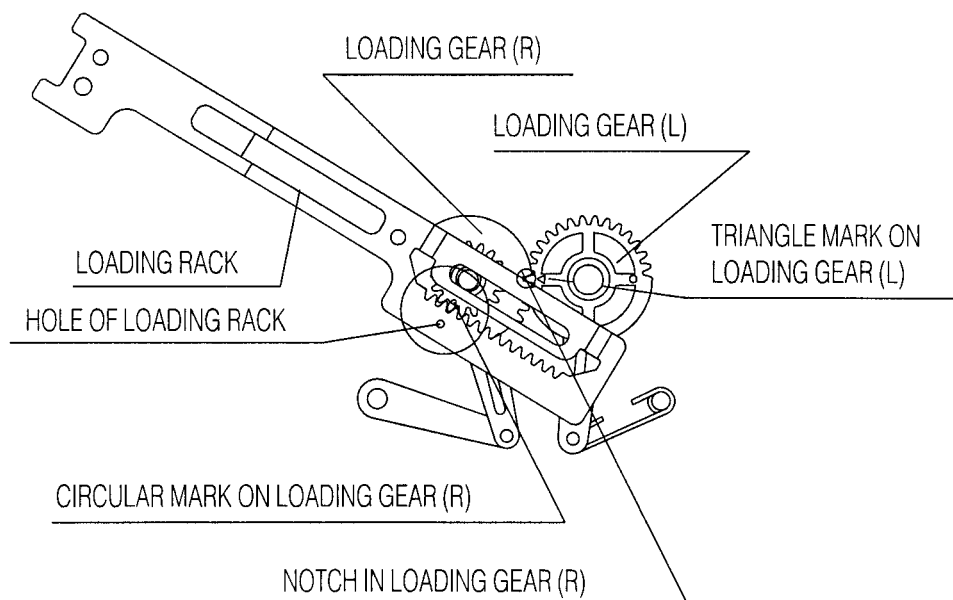

Fig.3-9 ASSEMBLY OF the R,L LOADING ASS'Y & LOADING RACK ASS'Y
- When reassembling, refer to Fig. 3-9